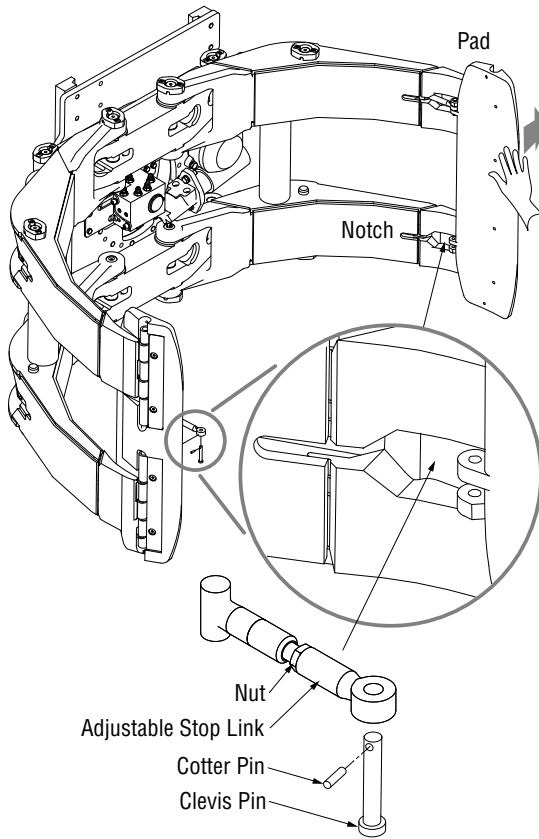

Figure 5-43, Stop Link Adjustment
1. Remove cotter pin from clevis pin and remove clevis pin. (Figure 5-43)